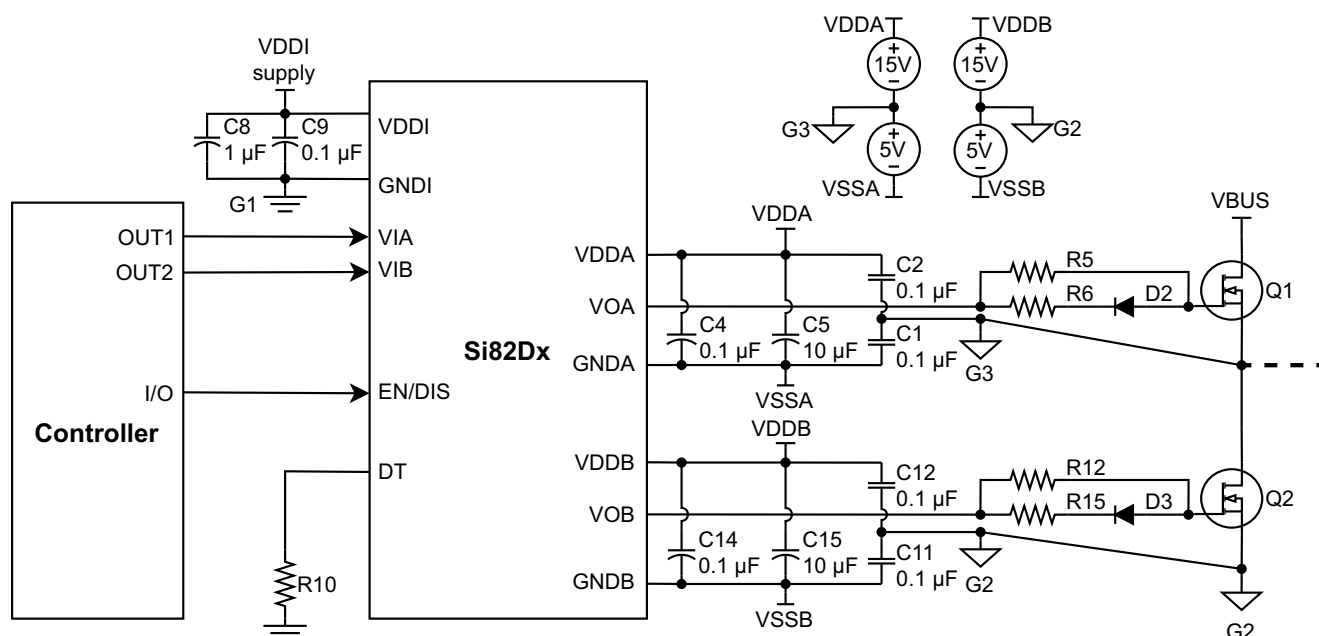

Figure 17. Bipolar Output Connection
Figure 17, “Bipolar Output Connection,” on page 19 is similar to the above High-Side/Low-Side configuration except that the drivers produce bipolar V_{GS} output voltage. The bipolar V_{GS} output requires the system to provide positive and negative voltage sources. Note that the bootstrap circuit cannot be used to share the low-side voltage sources with the high-side gate driver A for a bipolar V_{GS} output application. In this example, +15 V and –5 V sources are used for low-side gate driver B, and its reference point is also G2. The other set of +15 V and –5 V sources are used for the high-side gate driver A. The high-side voltage sources' reference, G3, is electrically connected to FET Q1's source. Note that the voltage potential at FET Q1's source jumps between VBUS and reference G2. Thus, the high-side voltage sources need to be isolated from reference G2 as well.
- Place resistor R10 close to the Si82Dx device's dead-time (DT) pin.
- If the application requires extremely high common-mode transient immunity (CMTI) performance, it is recommended to add a 10 nF capacitor between each of the logic input pins and the logic input ground (GNDI), including the no connect (NC) pins. This will help improve the CMTI performance.
- If the system is designed to provide a bipolar V_{GS} output, additional bypass capacitors (C1, C2, C11, and C12 in Figure 17, “Bipolar Output Connection,” on page 19) are required to minimize the return path length of the gate drive signals.